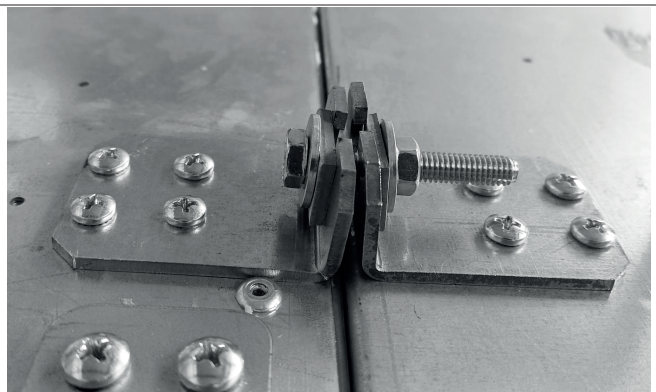

Fig. 51
- Once the head cabinet has been fixed, then fix the side brackets on the linear cabinet with the self-tapping screws, corresponding to those of the head cabinet ("Fig. 50") adjust the furniture lengthwise and secure the 2 brackets with the screw, nut and washer supplied ("Fig. 51", "Pag. 32").